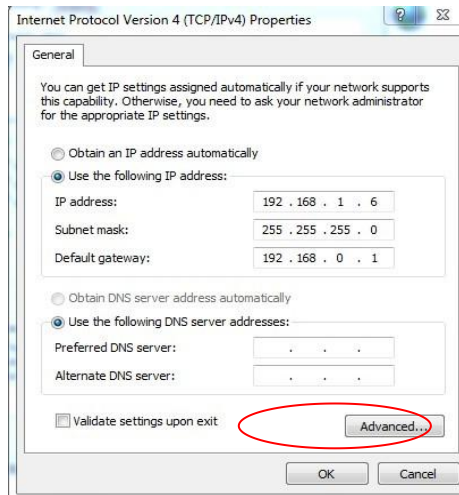

Figure 6.2
1) Click “Advanced”, enter to “Advanced TCP/IP settings” (See **Figure 6.2**)